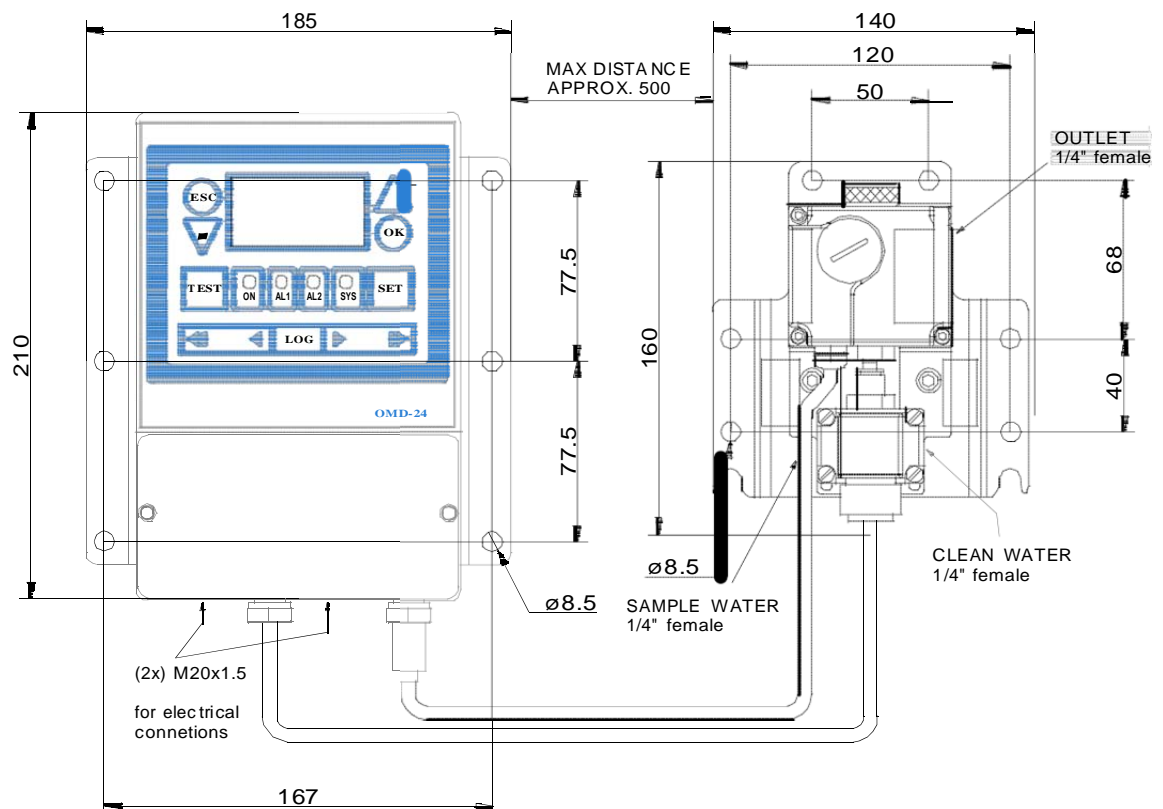
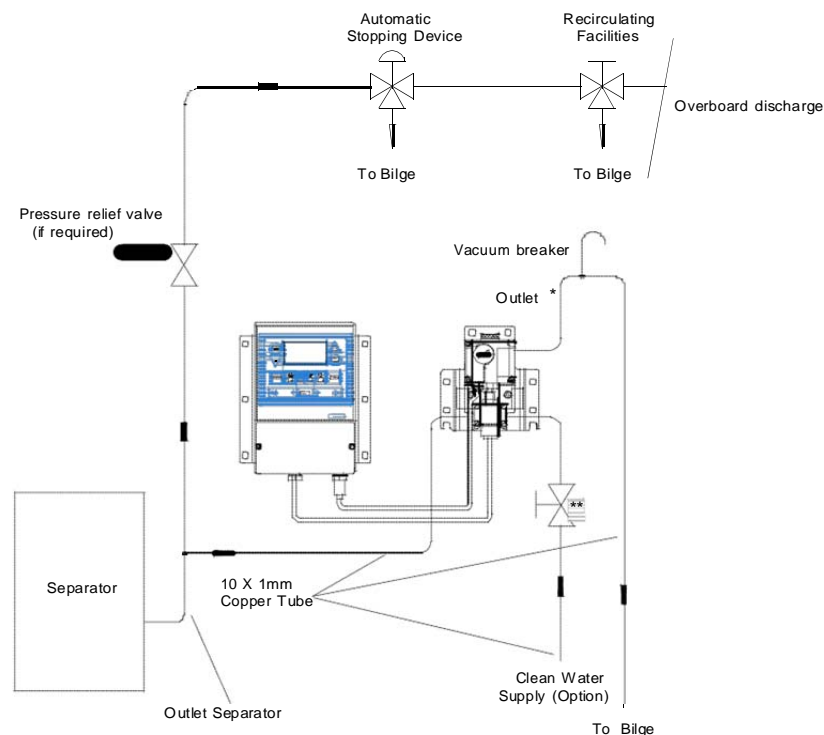

Fig. 2
Fig. 3
6.0 INSTALLATION (Refer to Fig. 2 and Fig. 3)
7.0 PIPING (Refer to Fig. 3)